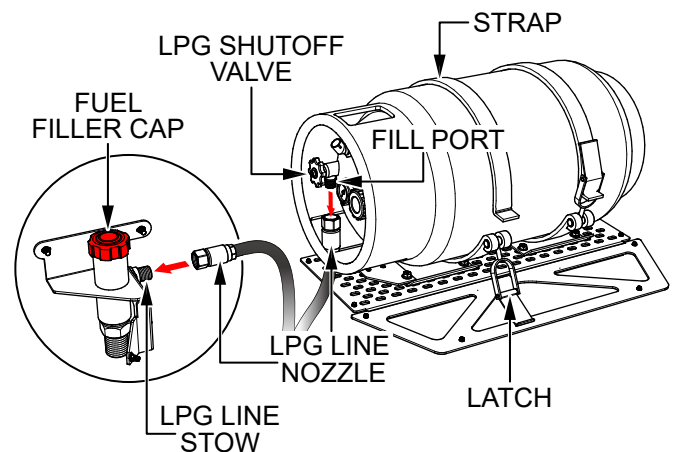

Figure 4. Propane Tank Removal
1. Turn the LPG shutoff valve (Figure 4) **clockwise** until closed.
2. Disconnect the LPG line nozzle (Figure 4) from the propane tank fill port.
3. Connect the LPG line nozzle to the LPG line stow (Figure 4) located next to the red gasoline fuel filler cap.
4. Release the latches on the propane tank straps (Figure 4).